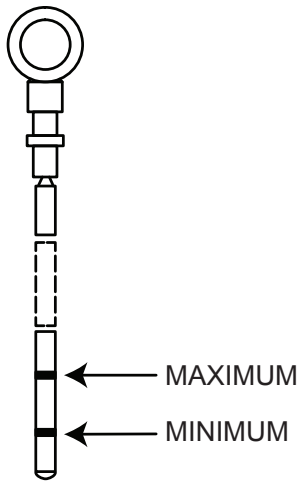

FIGURE 22 - PROPER OIL LEVEL
- Remove the dipstick and wipe with a lint free cloth. See FIGURE 22.
- Fill the oil sump up to the MAX level as indicated on the dipstick. See TABLE 11 for oil capacity for the specific diesel engine. See FIGURE 22.